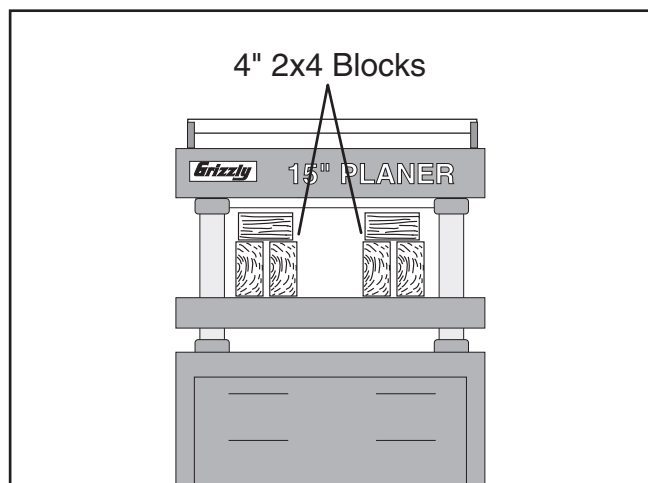

Figure 6. Support block locations.
17. Insert (6) 4" 2x4 blocks directly beneath cutterhead, as shown in **Figure 6**.